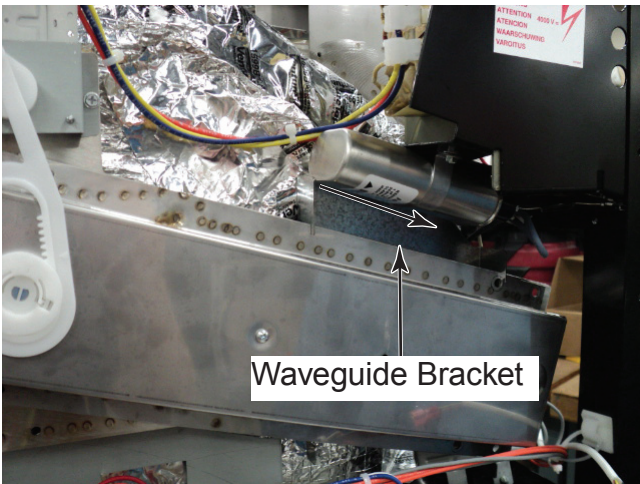

Figure 7
8. Slide waveguide bracket down towards the magnetron (Figure 7).